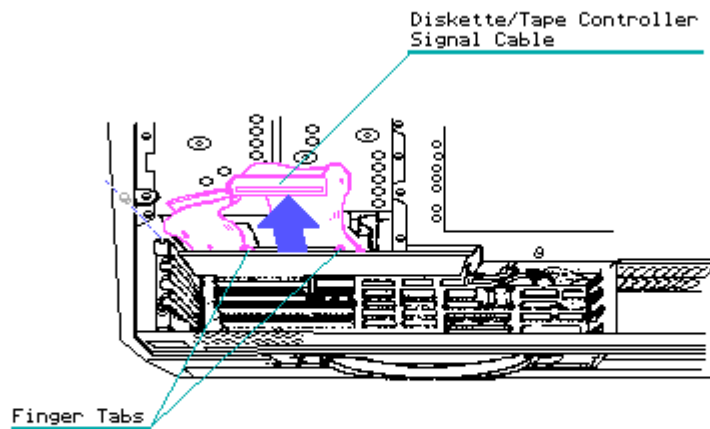

Figure 7.9-6. Disconnecting the Diskette/Tape Controller Board Signal Cable
3. Disconnect the diskette/tape controller board signal cable by pressing the finger tabs (if available) that are located on both sides of the connector (Figure 7.9-6).